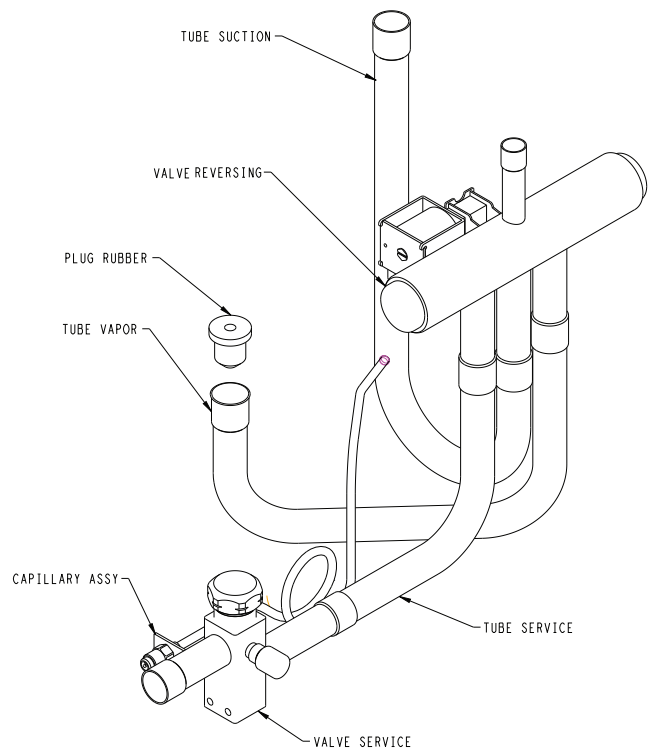

Fig. 2- Tube Vapor and Suction Locations
6. Cut the existing “tube vapor” tubing prior to un-brazing coil header joint. See Fig. 2.